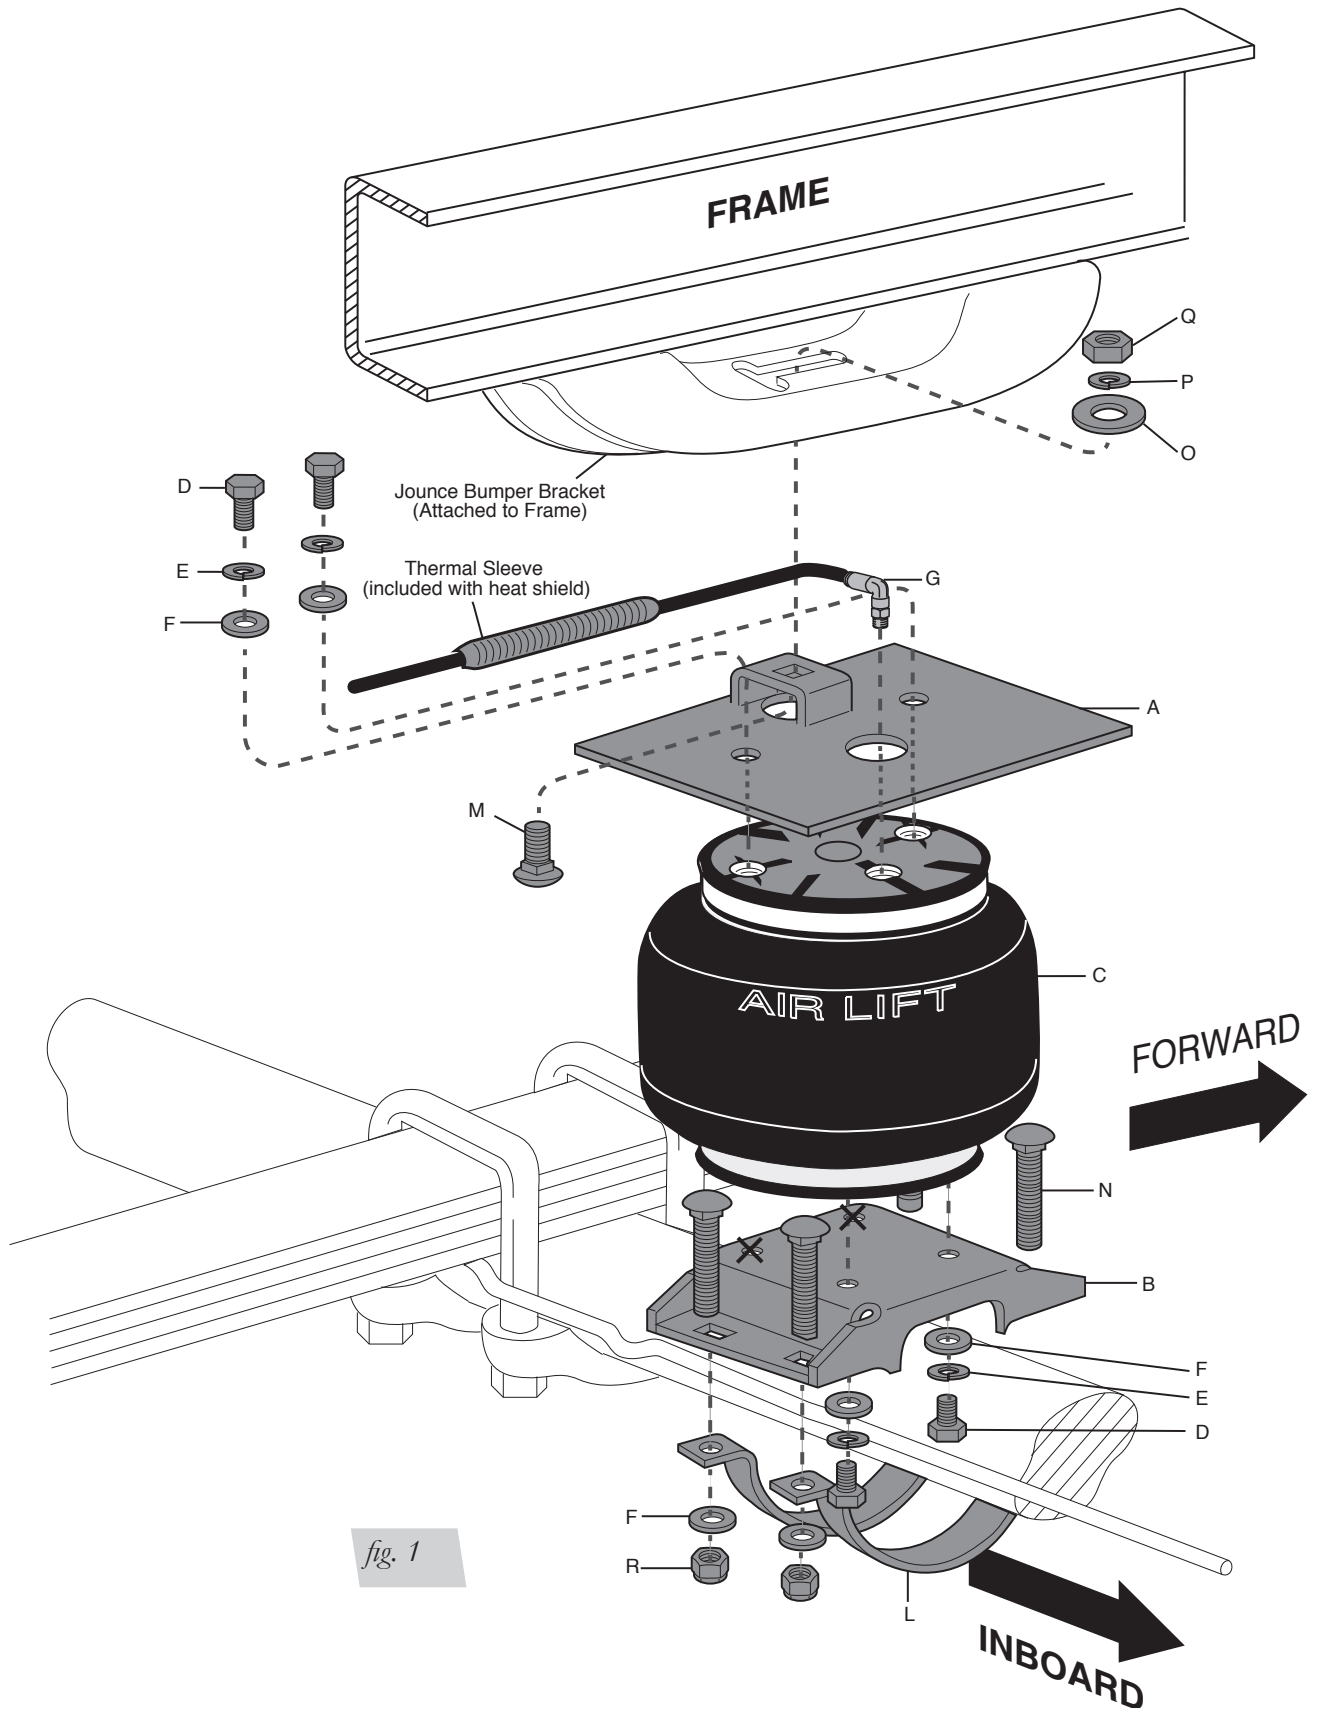

fig. 1
3. Insert a 1 1/2” carriage bolt (M) into the square hole of the upper bracket. Attach the upper bracket to the top plate of the air spring with two bolts (D), flat washers (F) and lock washers (E). (Fig. 1)
6. Set the assembly on the axle housing (Fig. 1). Push the threaded portion of the carriage bolt into the jounce bumper track. Loosely attach the upper bracket to the frame with a 1 1/2” carriage bolt (M), flat washer (O), lock washer (P), and nut (Q). (Fig. 1)
- Torque the 1/2" nut on the upper bracket to 20 lb./ft. (Fig. 1)
To prevent the air line from melting, keep it at least six inches from the exhaust system. Use the thermal sleeve on the exhaust side. (Fig. 1)